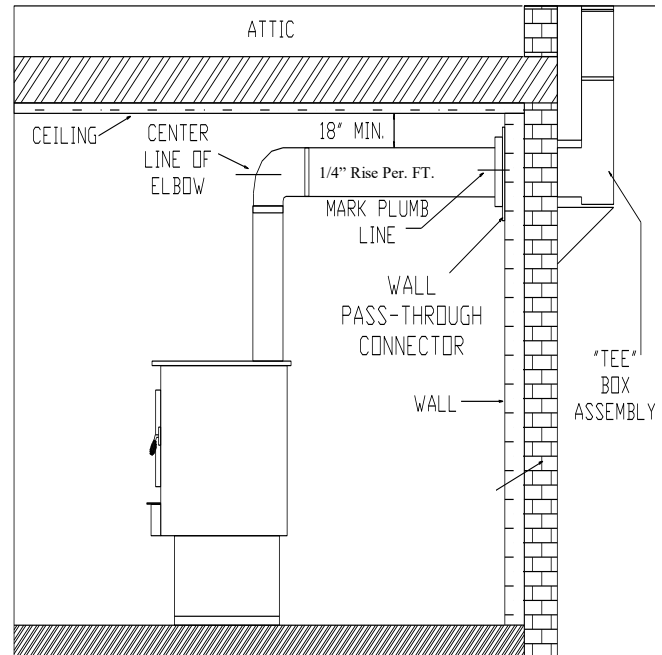

FIGURE 19
1. Mark plumb line on the wall directly behind the center of heater. (See Figure 19.)